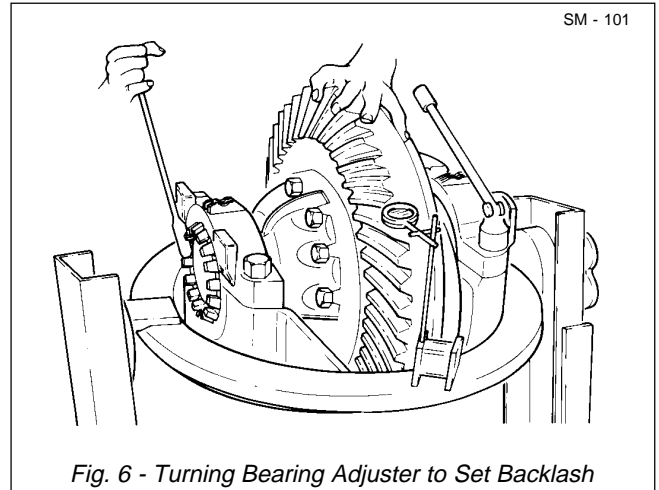

Fig. 6 - Turning Bearing Adjuster to Set Backlash
The bearing adjusters (25) have two basic functions: pre-loading cups (26) and cones (27); and positioning ring gear (45) to obtain the correct backlash between the ring gear and pinion gear (15). See Fig. 6. The bearing adjuster (25) located on the same side of pinion gear (15) as ring gear (45), pushes the ring gear toward the pinion gear. Bearing adjuster (25), located on the opposite side of pinion gear (15) than the ring gear, pushes the ring gear away from the pinion gear. The ring gear assembly must be installed onto carrier housing (19) so that cups (26) and cones (27) are properly pre-loaded; correct backlash exists between ring gear (45) and pinion gear (15), and satisfactory tooth pattern is established between ring gear and pinion gear.